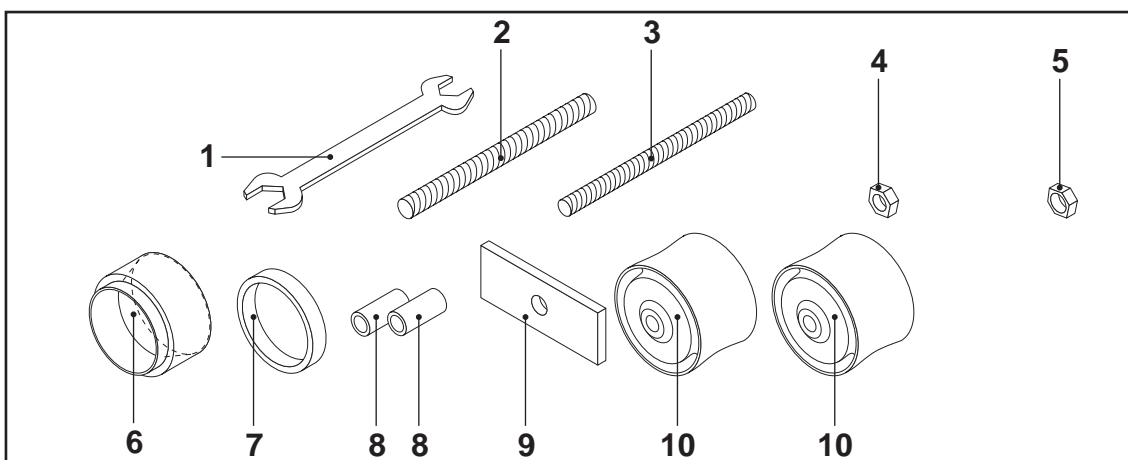

FIG.38
- 36-41 wrench (FIG.38-REF.1),
- M24 threaded rod (FIG.38-REF.2) and M27 (FIG.38-REF.3),
- M24 nut (FIG.38-REF.4) and M27 (FIG.38-REF.5),
- guide ring for piston (FIG.38-REF.6),
- spacer for guide (FIG.38-REF.7),
- two spacers for rod (FIG.38-REF.8),
- flange for piston disassembly (FIG.38-REF.9),
- two pistons (FIG.38-REF.10).